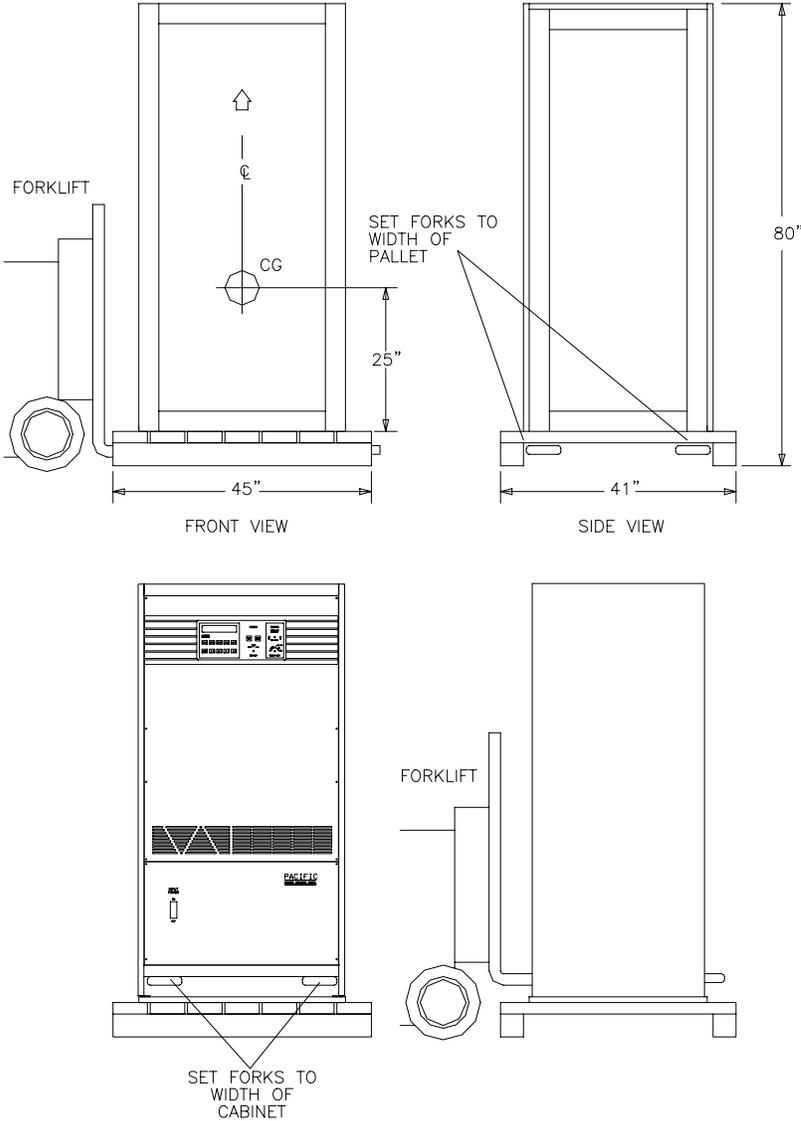

FIGURE 3.2 CRATING AND MOVING OUTLINE DRAWING
Unless specified otherwise, all Pacific 3060-UMS UPS systems will be shipped in three separate wooden crates. Crate Number 1 contains the UPS Cabinet, with a crated weight between 1200-1300 lbs. depending upon the model selected. Crate Number 2 contains the Battery Cabinet with batteries. Crated weight will be between 2500 and 3000 lbs. again dependent upon selected models. Crate number 1 can be seen in figure 3.2, Crating and Moving Outline drawing. The weight will be marked on all sides for safe handling. All crates are constructed of wood and designed to be moved with a forklift or hand truck of adequate capacity.
- TO AVOID DAMAGE TO THE EQUIPMENT, LIFTING FORKS MUST EXTEND COMPLETELY THROUGH THE LIFTING CHANNEL UNDER THE CABINET AS SHOWN IN FIGURE 3.2, CRATING AND MOVING OUTLINE DRAWING.